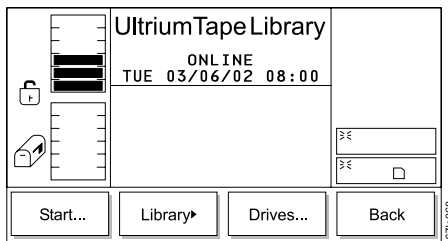

Figure 306. Service Menu
2. Press the button below the **Service** softkey. The Service Menu displays (see Figure 306).